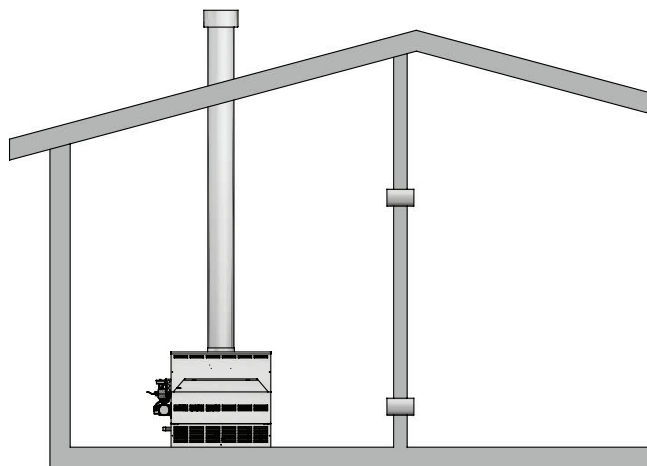

Figure 1-5 *_Combustion Air from Interior Space*
3. If air is taken from another interior space that is adequately ventilated, each of the two openings specified above should have a net free area of one square inch for each 1000 Btu/hr (22cm² per kW) of input, but not less than 100 square inches (645cm²) (see FIG. 1-5).